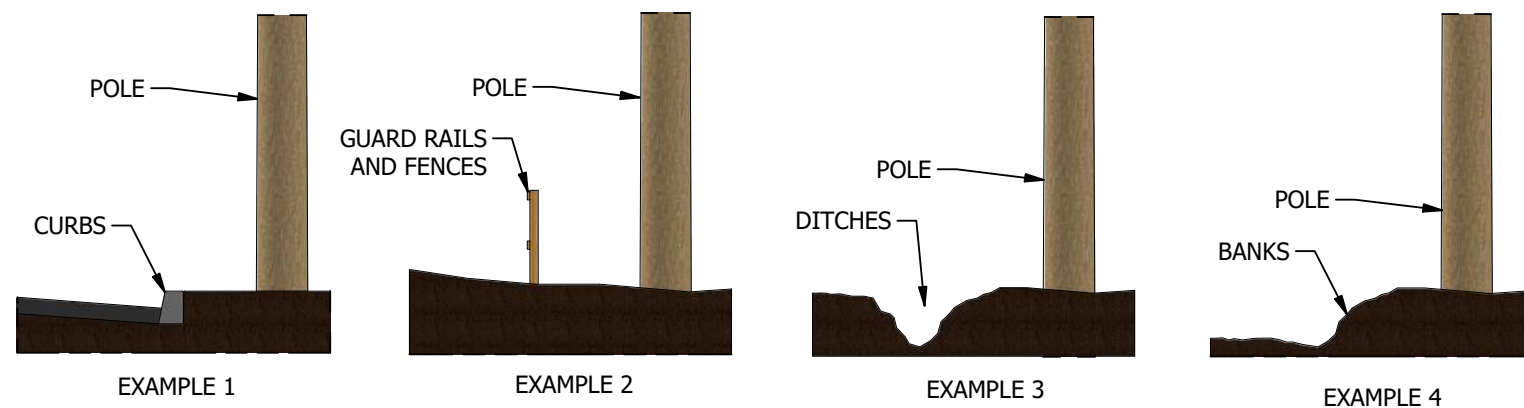

FIGURE 4
* DELINEATORS ARE REQUIRED ON ALL POLES ON STATE HIGHWAYS WITH THE FOLLOWING EXCEPTION: DELINEATORS ARE NOT REQUIRED ON POLES THAT DO NOT PRESENT A POSSIBLE TRAFFIC HAZARD (SEE FIGURE 4) AND MAY BE EXEMPTED UPON APPROVAL OF A WRITTEN REQUEST SUBMITTED WITH THE REQUEST FOR THE ENCROACHMENT PERMIT TO THE DIVISION OF HIGHWAYS, STATE OF CALIFORNIA. (a)